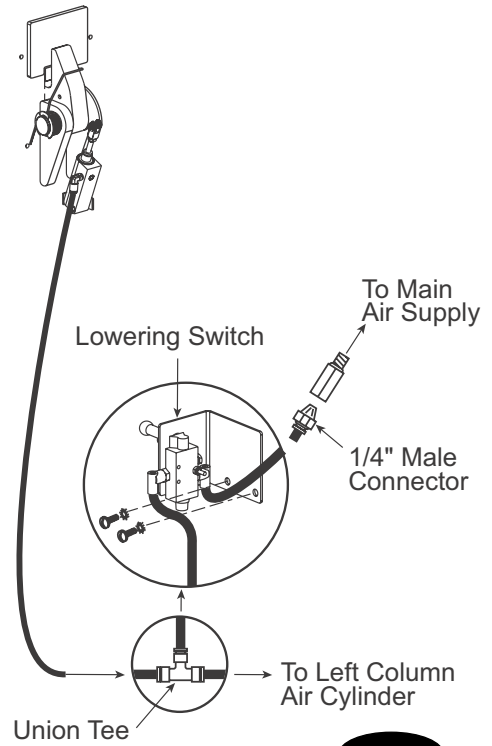

Fig. 15b
- H) Install air line from union tee to left column air cylinder. Figs. 15b and 16.